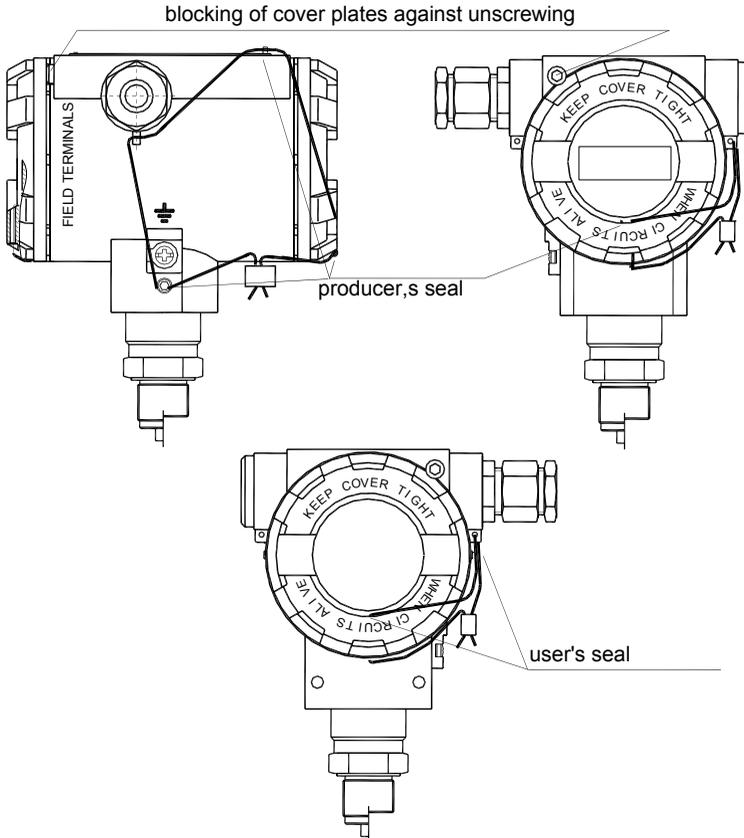

Fig 1c. BPT3251-ALW in MID application. Sealed up transmitter.
8.2. Blocking by the gas volume conversion manufacturer. Turn on the "spec MID locking" with local buttons using local menu of transmitter (p.10.2.5.2 DTR.BPT.BDPT.ALW.03(ENG), MID_WP – "ON"). Put the seals of the gas volume conversion producer on the cover, screw of a sensor head and a label if it is metal made. Places of seals application is shown by the arrows at Fig. 1c. Seal should be made in accordance with the documentation of gas volume conversions in the place/country their use.